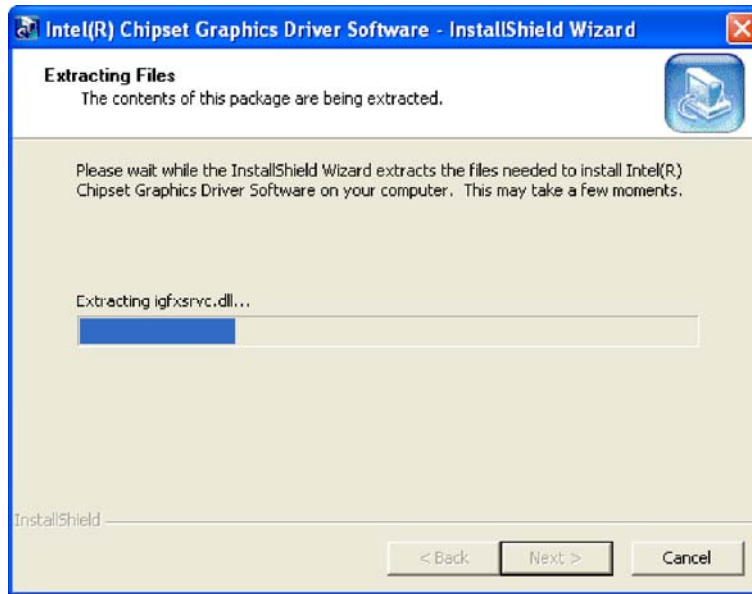

Figure 6-10: VGA Driver Setup Files Extracted
Step 5: The installation files are extracted. See **Figure 6-10**.